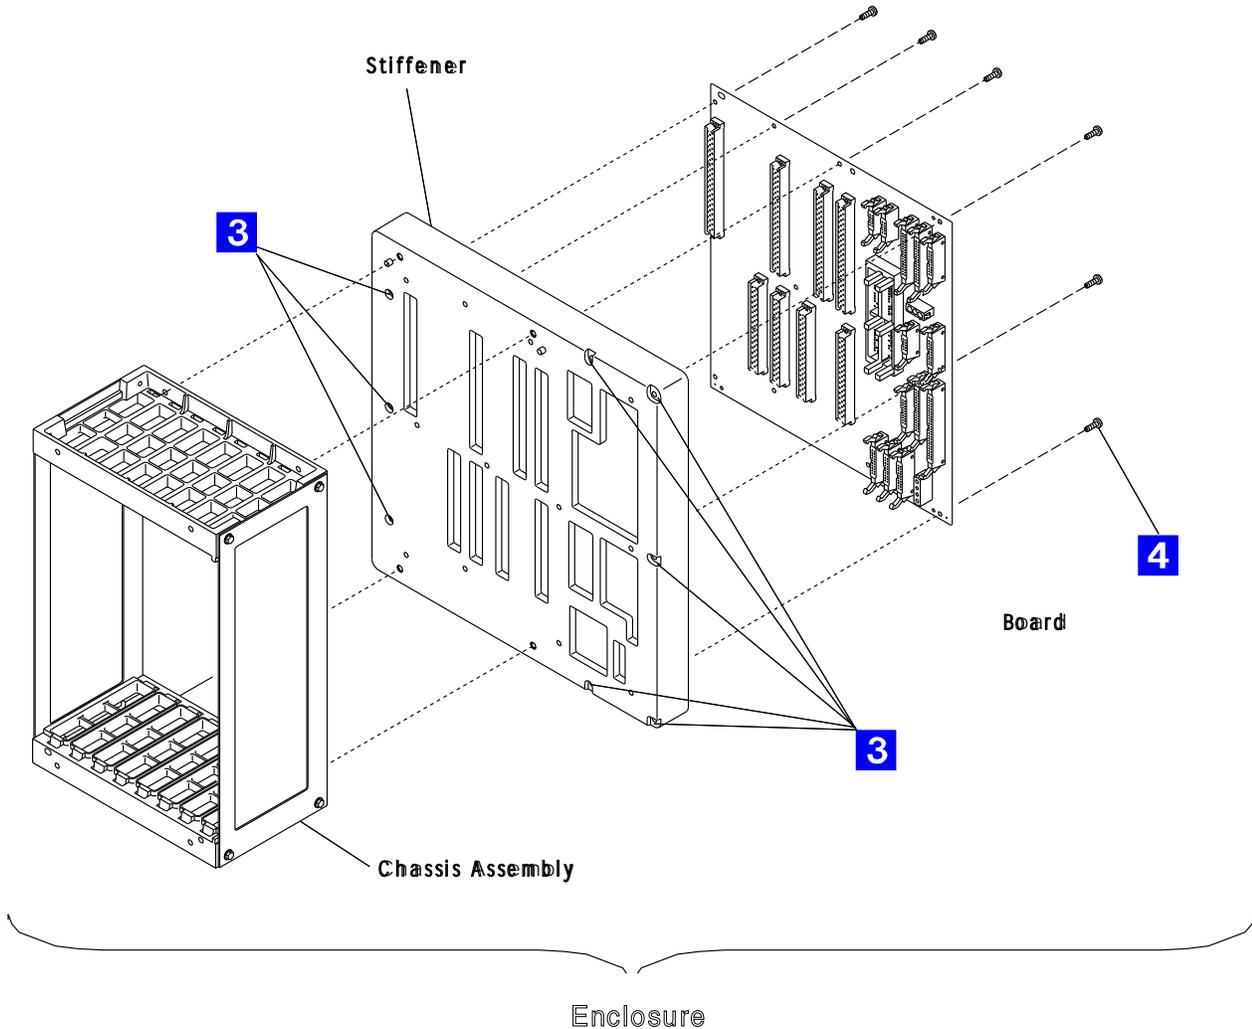

Figure 4-128. MOSS Board Enclosure
13. Remove the eight screws **3** which maintain the MOSS board enclosure in the frame. Refer to Figure 4-128. Remove the enclosure and place it in a safe working place.
14. Remove the 12 screws **4** which hold the MOSS board on the stiffener. Refer to Figure 4-128. Remove the MOSS board.
1. Place the new board on the stiffener and fasten it with the 12 screws **4**. Refer to Figure 4-128 on page 4-94.
2. Replace the MOSS board enclosure in the machine frame and fasten it with the eight screws **3**. Refer to Figure 4-128 on page 4-94.